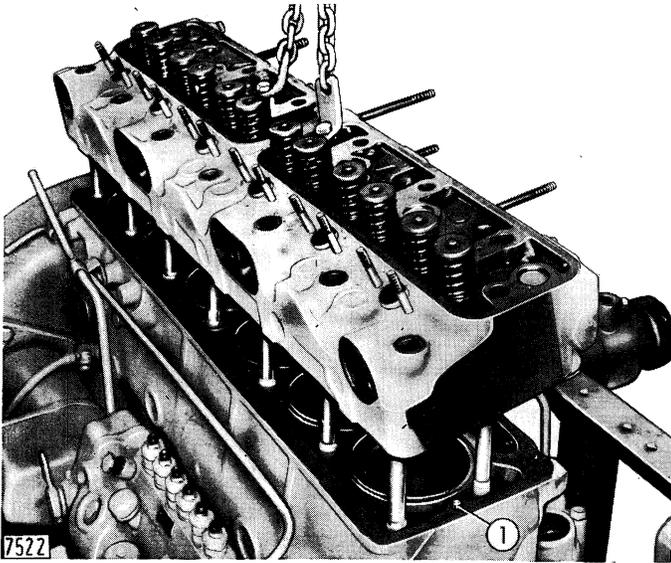
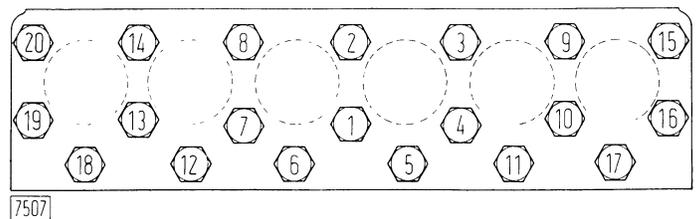

Fig. 11 - Removing (or Refitting) the Cylinder Head with the Engine on the Rotary Stand
Fig. 17 - Cylinder Head Tightening Sequence
— Position the cylinder head over dowels (1, Fig. 11) and tighten the hold down nuts in three stages according to the sequence given in Fig. 17.
- Dismantle the cylinder head (see Fig. 11).